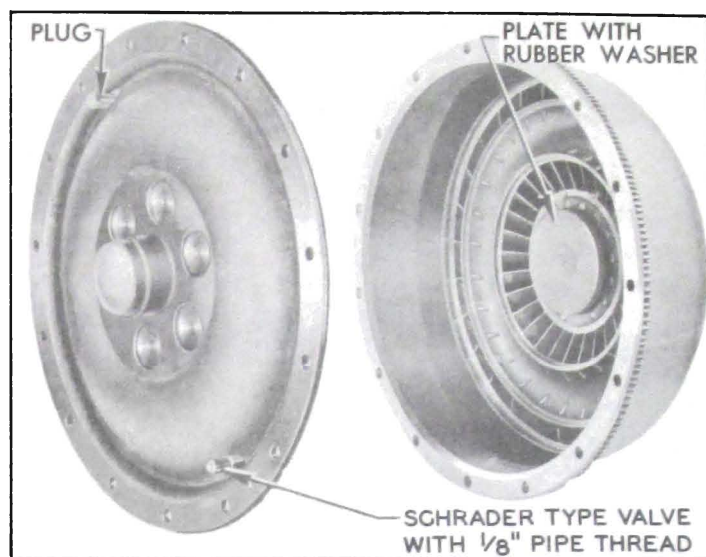

Figure 5-51—Plate and Plugs Installed in Pump and Cover
2. Install plate with washer over inside surface of pump hub (Figure 5-51), then install pump cover with seal and tighten all bolts to 25-30 ft. lbs. torque in sequence shown in Figure 5-108.
3. Install one drain plug, and install a Schrader type valve with  $\frac{1}{8}$ " pipe thread in other drain hole. Tighten parts securely. See Figure 5-51.